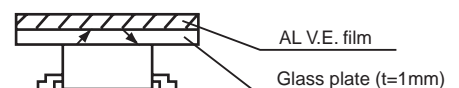

Fig. 1 Location of Reflector
*1 Location of reflector is shown in Fig. 1.